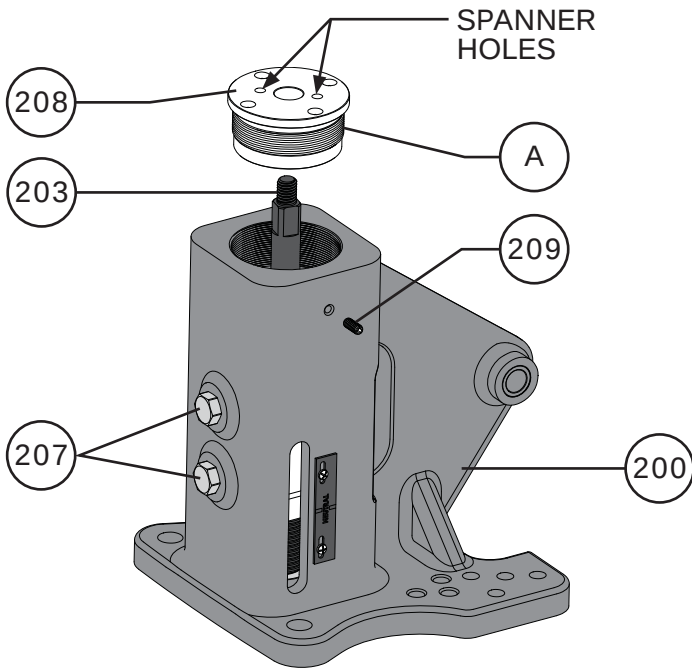

Figure 65 Bearing Retainer Installation
- 9 Lubricate the threads of the bearing retainer (Key 208) with Permatex® Nickel Anti-Seize (Key A) and thread it into the top of the handwheel body (Key 200). It may be necessary to use a spanner wrench to tighten the bearing retainer completely into the handwheel body. Once the bearing retainer is completely threaded in place, loosen the bearing retainer $\frac{1}{4}$ turn. Refer to Figure 65.